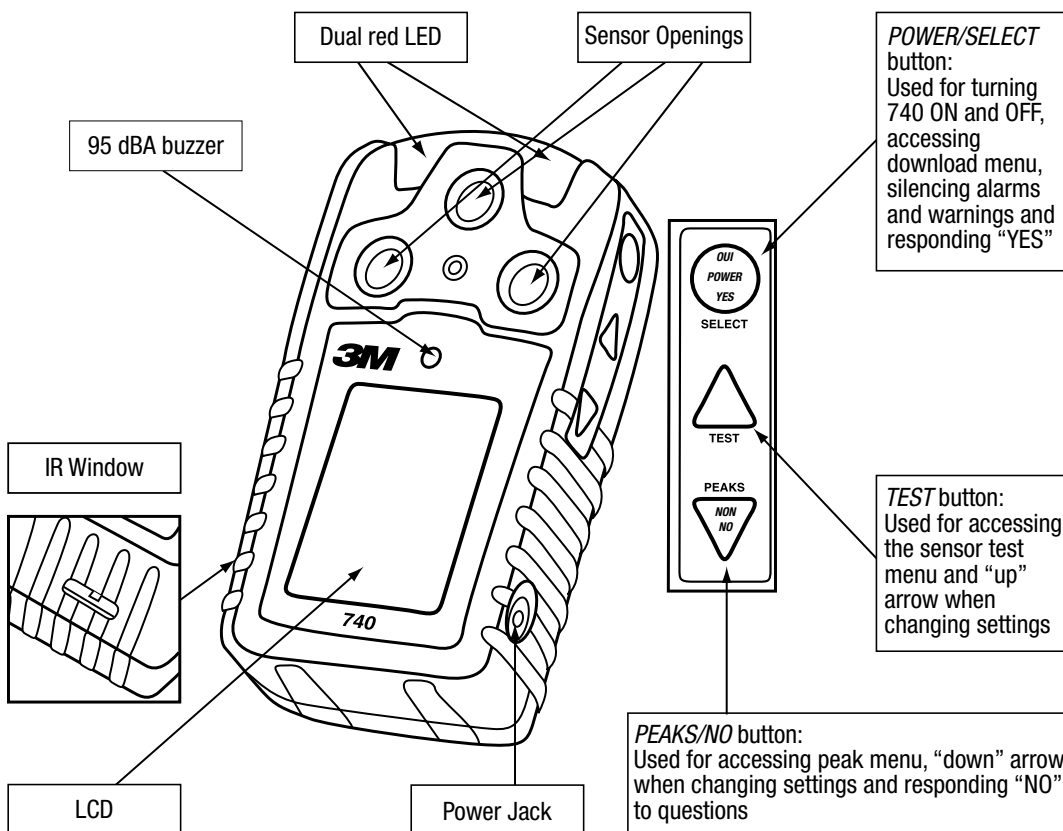

Fig. 1 – 740 Series Detector Features
The components of the detector are assembled in an ABS/PC plastic housing 4.8 H x 2.7 W x 1.4 D in. (Fig. 1). Located on the front face of the unit are the display (LCD), sensor inlet, audio alarm opening, and visual alarm LED. On one side of the unit are the POWER/SELECT, TEST, and PEAK/NO buttons and power jack. On the other side of the unit is the Infrared (IR) communication window. On the back of the unit is an alligator pocket/belt clip and a label containing the intrinsic safety information and serial number.